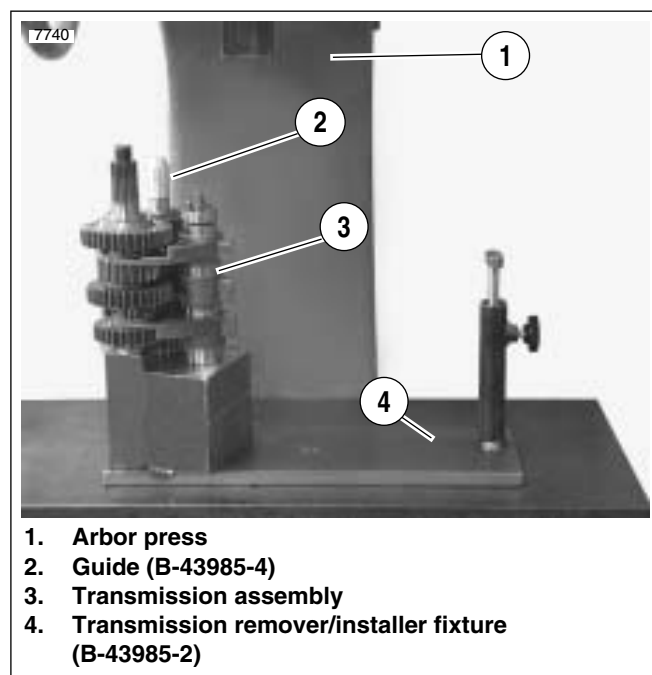

Figure 6-48. Transmission Assembly
2. See Figure 6-48. Place transmission assembly onto TRANSMISSION REMOVER/INSTALLER FIXTURE (Part no. B-43985-2) on arbor press.